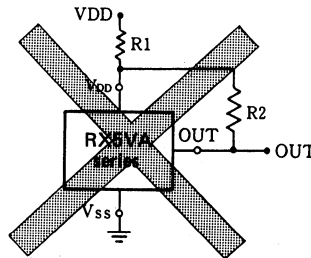

Fig. 28
2. Don't connect as shown as Fig. 28 in all RX5VA series, or oscillation may happen.